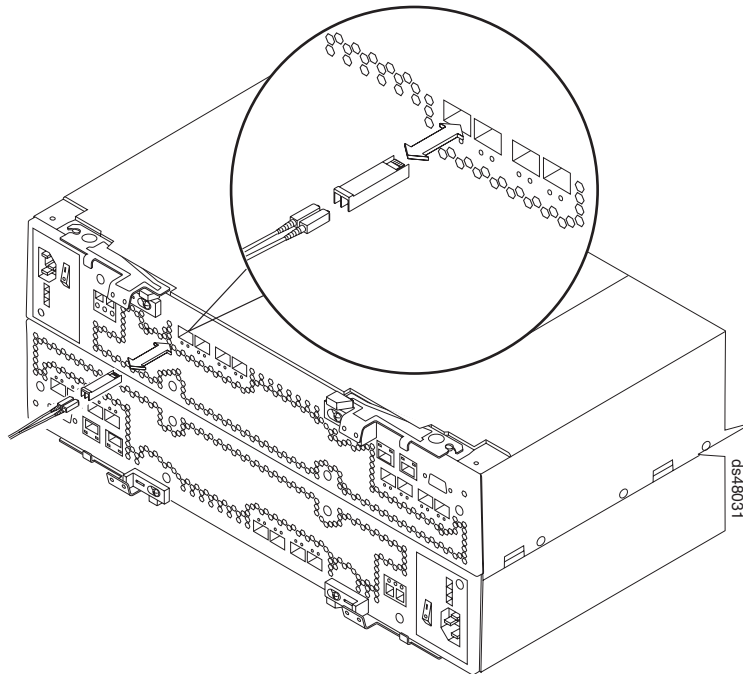

Figure 60. Installing an SFP module and LC-LC cable in a DS4800
1. Install an SFP module in the drive mini hub port on the back of the DS4800 Storage Subsystem, as shown in Figure 60 on page 86.